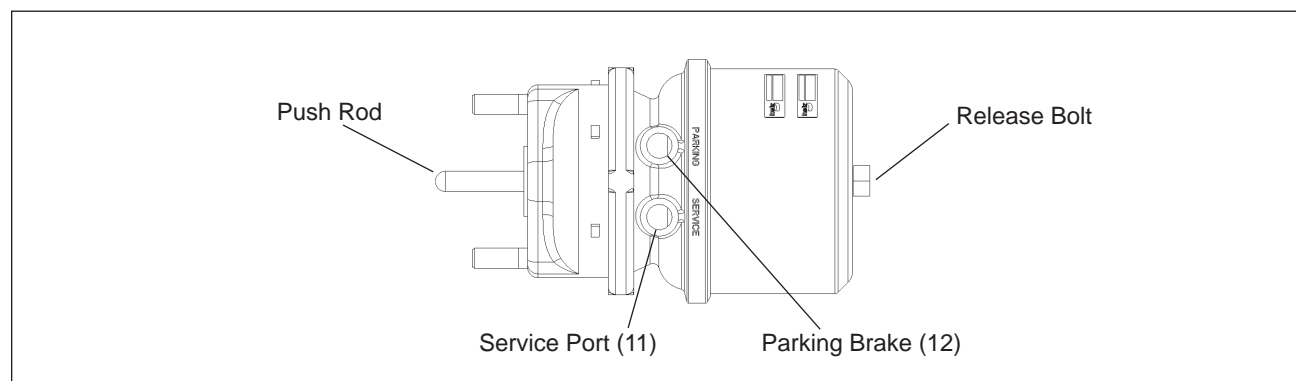

Figure 2 - Spring brake shown in the un-caged (released) position.
- 3) Gradually supply 100 psi of air pressure to the parking brake port (12) of the actuator.
- 5) Seat the release bolt in the un-caged position by applying a torque of 50 lb-ft. The release bolt and push rod should be in the position shown in Figure 2.
- 6) With hands clear of moving parts, slowly release the air pressure to the parking brake port (12). Be sure to exercise caution to prevent pinching of fingers.